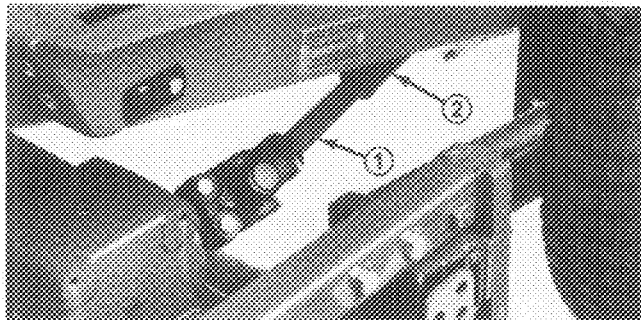

Figure 21
5. Stop engine and slide cutting unit away from traction unit and frame separating male and female section of PTO shaft (Fig. 21).